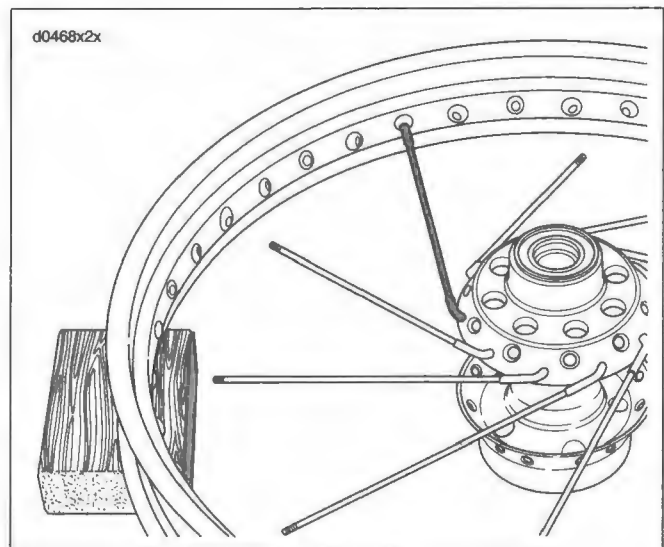

Figure 2-33.
3. See Figure 2-33. Using any **lower** row spoke, place the first spoke into the rim hole, angled to correctly accept the spoke, on the upper half of the rim centerline.